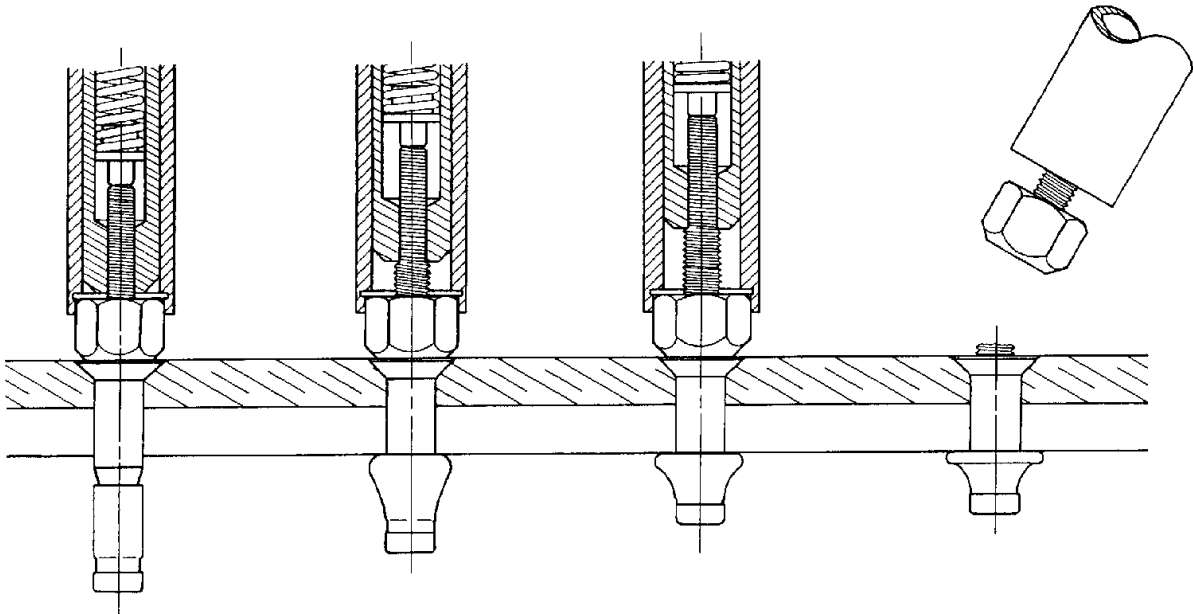

Figure 7 - Typical Fastener Installation
5.5.1 Install fasteners as follows (see Figure 7):